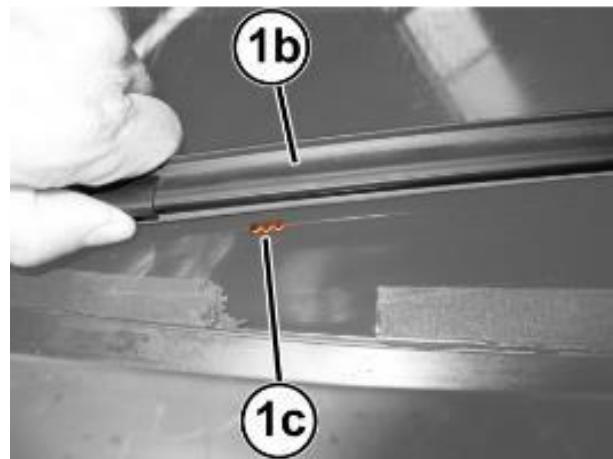

Figure 27 – Wiper Arm
61. Place the windshield wiper arm (1a) in position aligning the blade (1b) with the references (1c) etched on the windshield (Figure 27).